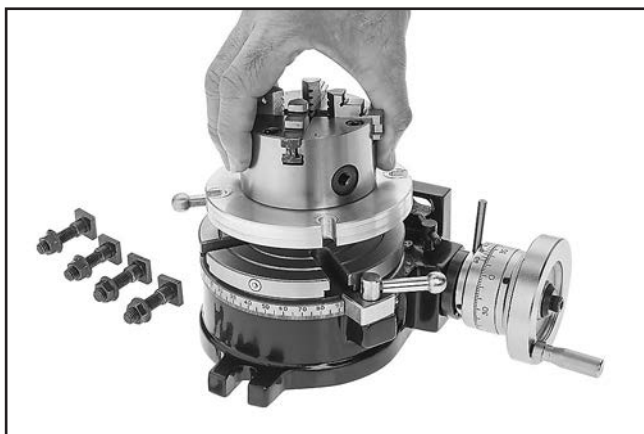

Figure 13. Mounting chuck to rotary table.
1. Place chuck on rotary table and attach with (4) M8-1.25 x 40 T-slot bolt assemblies (see **Figure 13**).